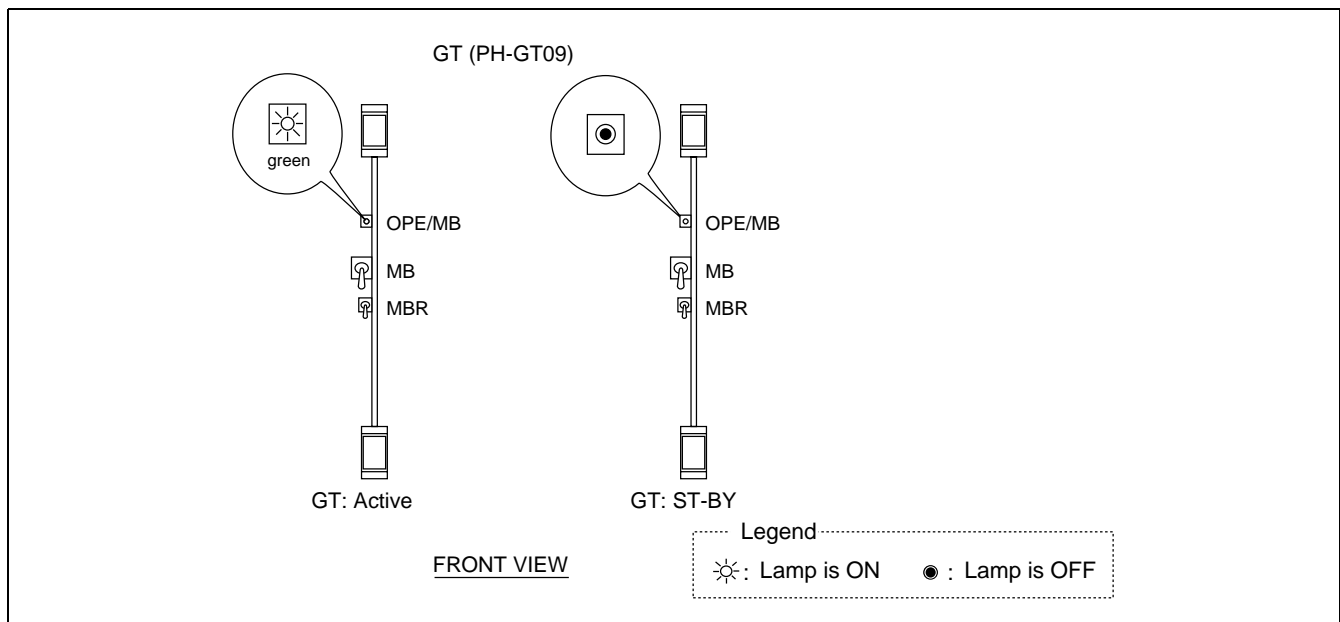

Figure 6-50 GT in ACT / STBY Mode (LN)
The CPU changeover also affects the ACT/ST-BY of GT(s) in the TSWM(0/1). Referring to Figure 6-50, check the lamp indications on the GT (PH-GT09) card(s).
(2) Check the mate CPU's STBY mode. Also check the mate GT's STBY mode. Refer to Figure 6-50.